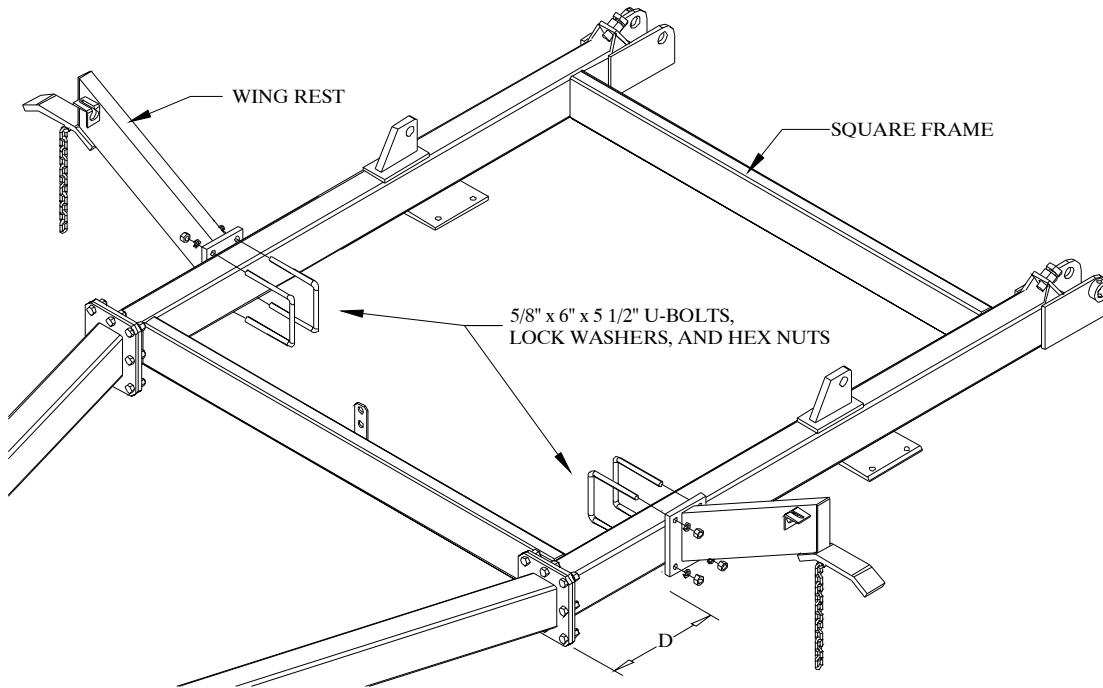

Figure 4
7. Attach the wing rests to the square frame. Refer to Figure 4. Use four 5/8" x 6" x 5 1/2" U-bolts, lock washers, and hex nuts. Do *not* tighten yet. The distance ("D" in Figure 4.) from square frame splice plate to the wing rest mounting plate varies with the model: